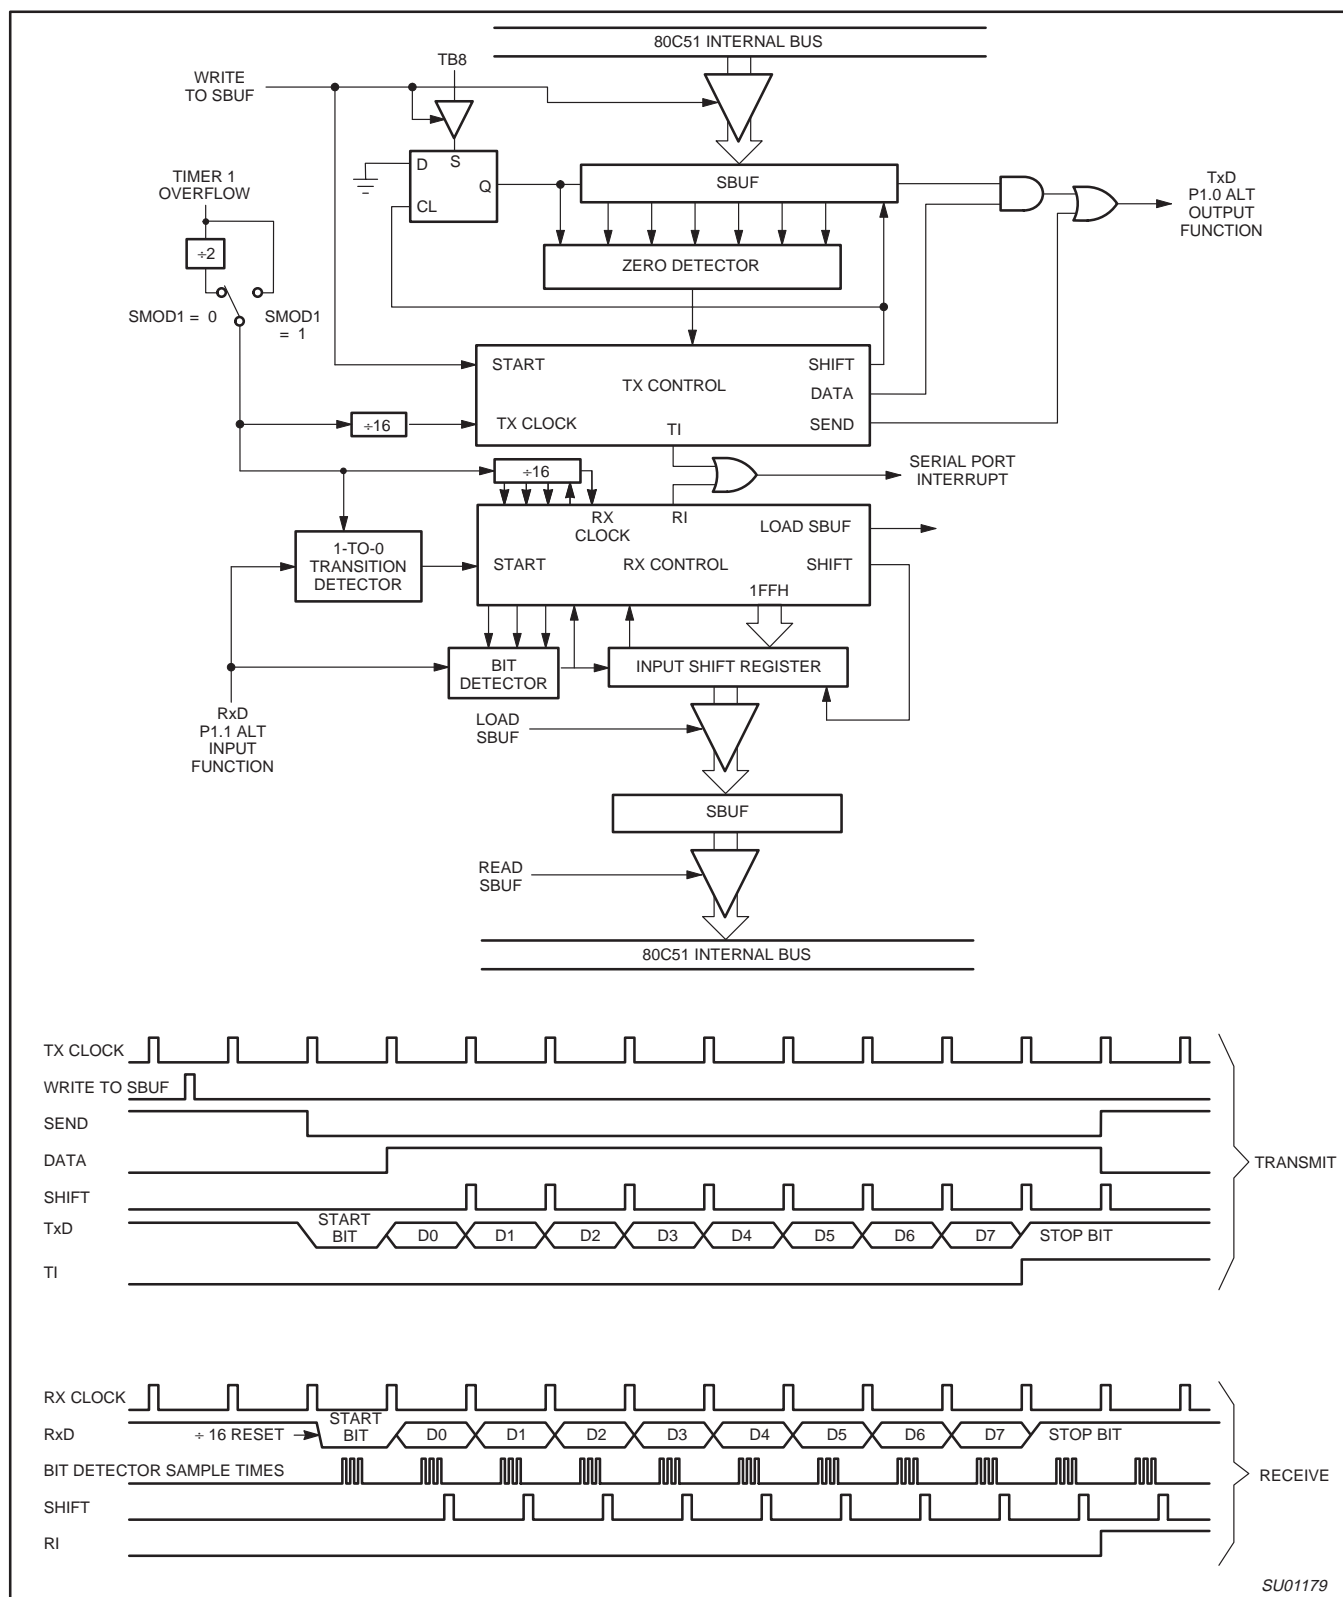

Figure 33. Serial Port Mode 1
Ten bits are transmitted (through TxD), or received (through RxD): a start bit (0), 8 data bits (LSB first), and a stop bit (1). On receive, the stop bit goes into RB8 in SCON. In the 87LPC769 the baud rate is determined by the Timer 1 overflow rate. Figure 33 shows a simplified functional diagram of the serial port in Mode 1, and associated timings for transmit receive.